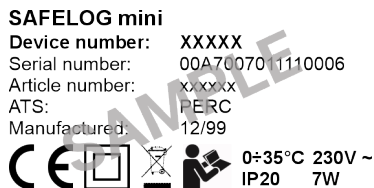

Fig. 4: Nameplate with device number
- the device number on the nameplate (s. fig. 4) (needed during the commissioning)
Step 2: Take up the device number from the rating plate (see Fig. 4) when you are requested to enter this number and confirm with “Enter”. The number is precisely 5 digits in length.